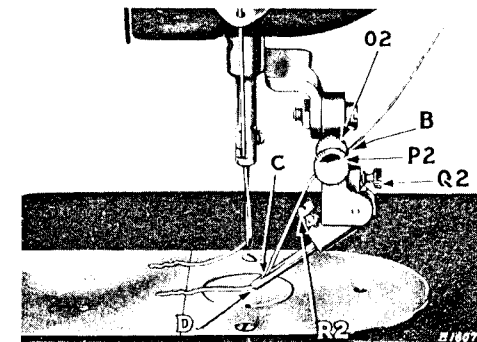

Fig. 26. Cord Guide Tube Threaded
Loosen the knurled thumb nut (02, Fig.26) and turn the adjusting screw (P2) to the right or left to bring the cord guide tube (D) in line with the center of the needle bar vibration, after which securely tighten the thumb nut (02).
Loosen the screw (R2, Fig.26) and set the end of the cord guide tube (D) flush with the right hand side of the needle slot in the needle plate, then securely tighten the set screw (R2).
To raise or lower the cord guide tube (D), turn the thumb screw (Q2, Fig.26) until the cord guide tube is set at the required height.
Pass the cord from the thread unwinder or cord holder through the bottom hole in the thread guide pin on top of the machine, through the hole (B, Fig.26) in the cord tube holder, through the opening (C) in the cord guide tube and out through the hole (D) in the end of the tube. Draw enough cord through the tube so that it will be caught by the needle when commencing to sew.